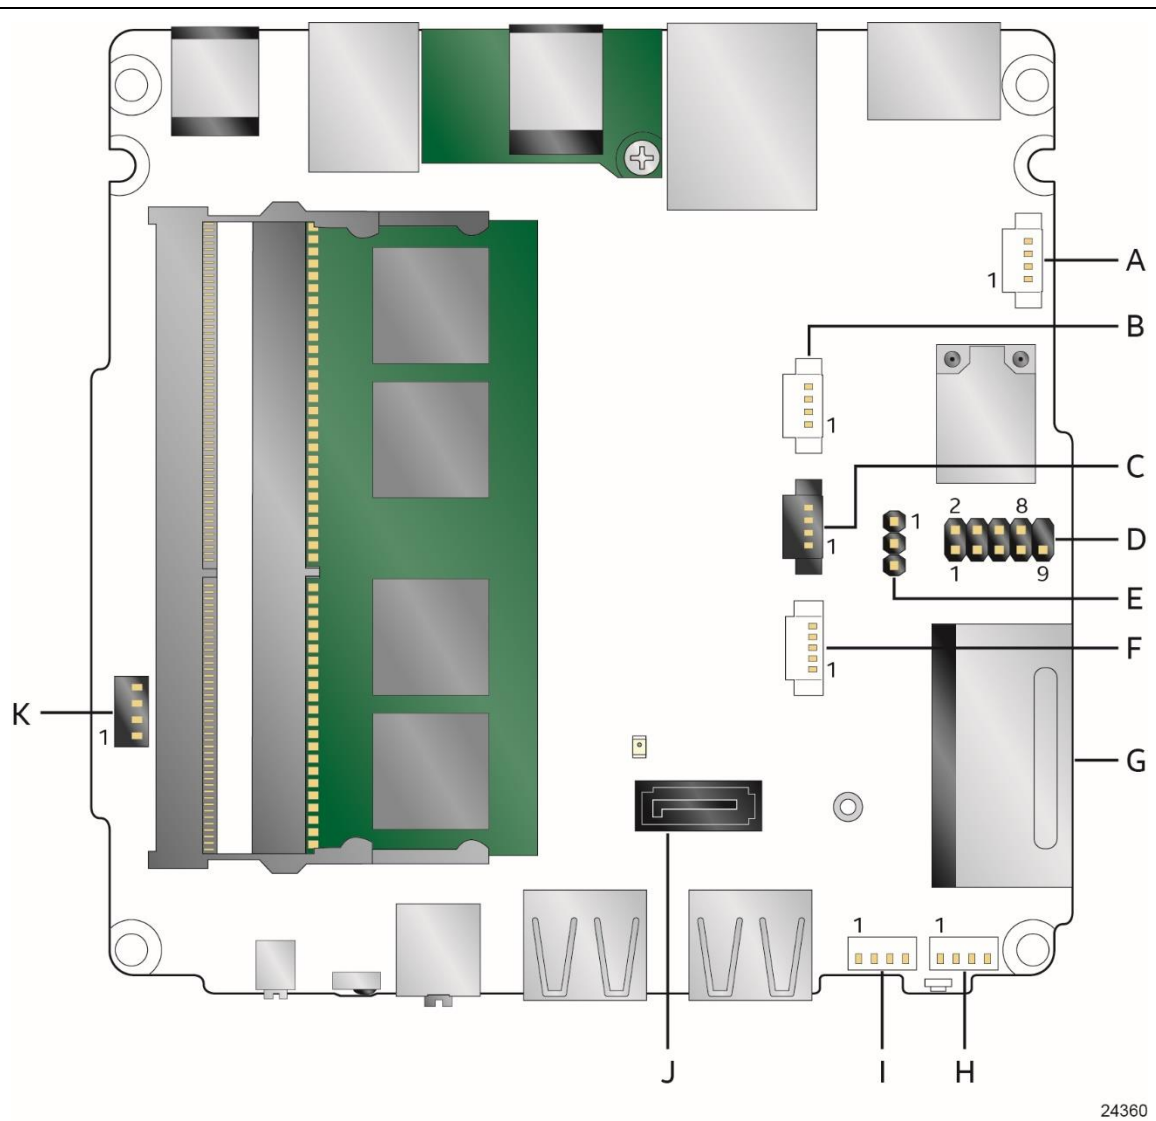

Figure 14. Connectors and Headers (Bottom)
- External CEC adaptor connected via CEC connector (see Figure 14; pinout in Table 18).
Figure 14 shows the locations of the connectors and headers on the bottom-side of the board.
Table 13 lists the connectors and headers identified in Figure 14.
Table 13. Connectors and Headers Shown in Figure 14
| Item from Figure 14 | Description |